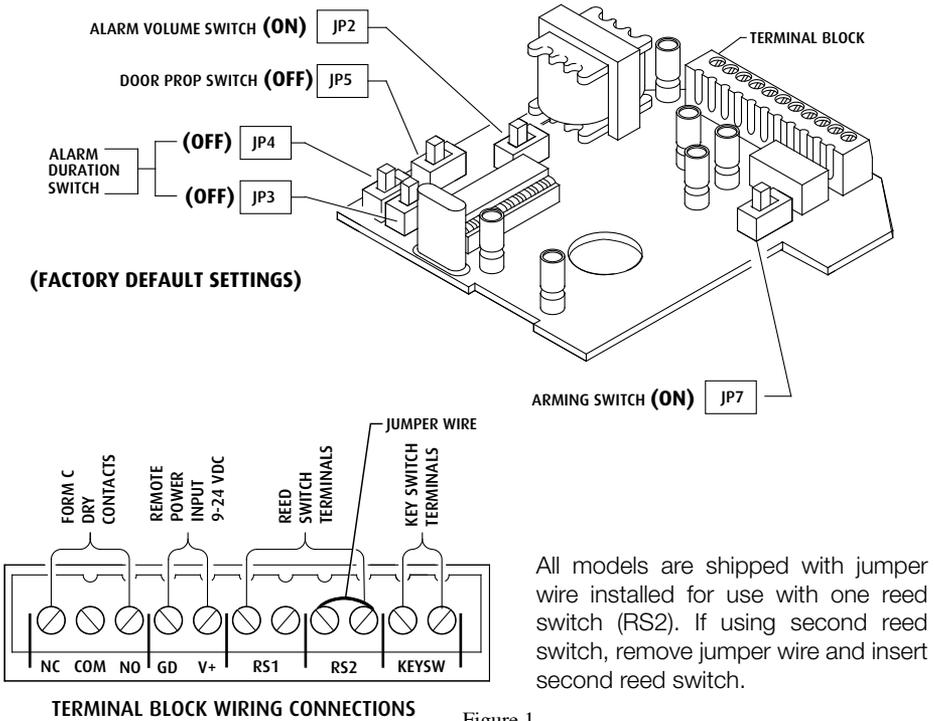

Figure 1
1. Set switches on circuit board to desired alarm settings (Fig. 1).
3. Connect first reed switch in RS1 and second in RS2 (Fig. 5). (Refer to Fig. 1 for additional details.)
2. Connect two conductor wire (14-24 AWG) from main unit terminal block pins COM and NO to remote horn unit terminal block. (wire not provided). Units can be set up to 300 ft. apart. Not polarity sensitive (refer to Fig. 1 and Fig. 5 for details).